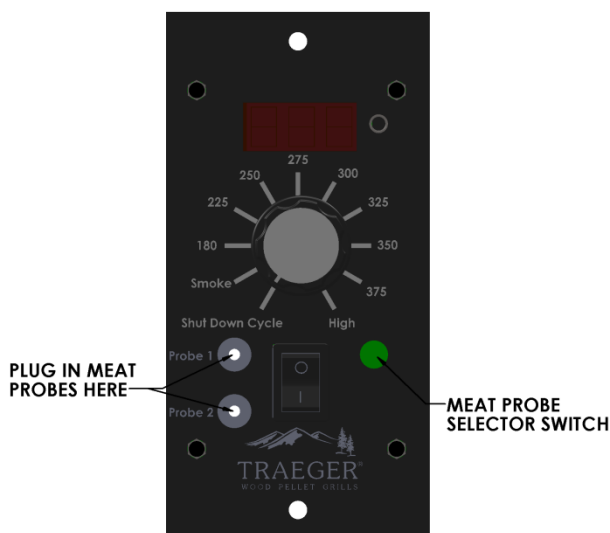

Figure 4-1
- 1) Insert either one or two meat probes into the plug-in receptacles located on the lower left corner of the controller as shown in Figure 4-1.
- 4) To read the temperature of the meat probe press the meat probe selector switch locate in the lower right corner of the control as shown in Figure 4-1. The control will display PO1 then it will display the temperature of probe 1 while blinking. To see Probe 2 press the meat probe selector switch twice. The control will revert back to the barbeque temperature after 3 second.